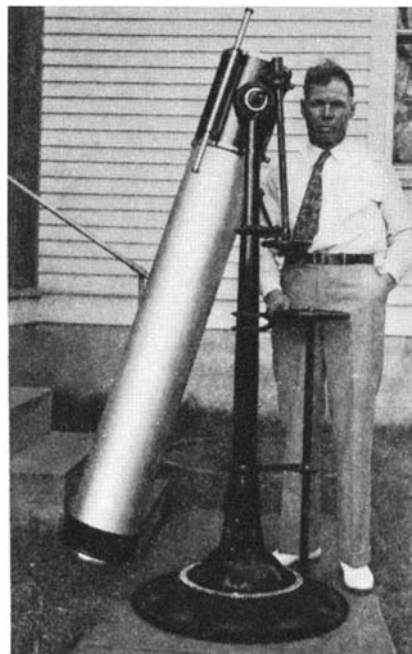

Figure 3: Note altitude screw
**W**HAT interests me is the new found use for another flivver part—the rear axle housing, as a pedestal," Russell W. Porter commented when shown the photograph in Figure 3. Welby Powell, R.F.D. 1, Clarksville, Tenn., is the maker. His letter: